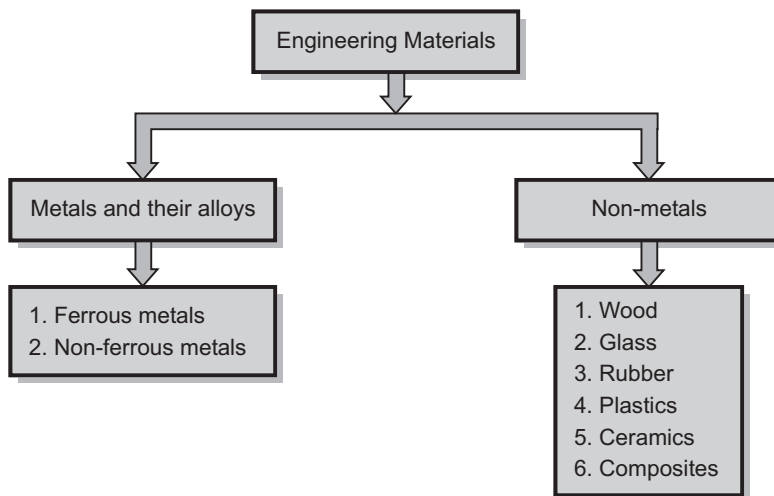

Fig. 7.1 : Classification of engineering materials
- The engineering materials are mainly classified as follows (Refer Fig. 7.1) :